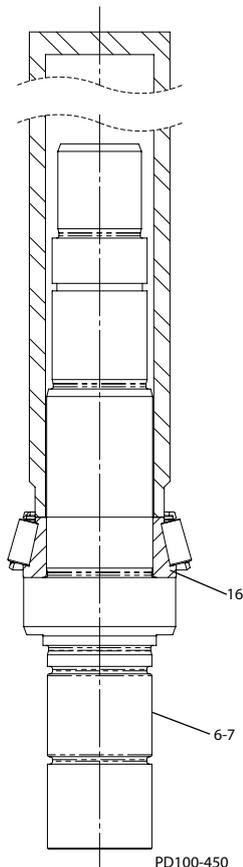

Figure 45 - Press Bearing Cone onto Shaft
Alternate method: Press the front bearing cone (Figure 45, item 16) onto the shafts (items 6-7). The bearing cone must seat squarely against the shaft shoulder.